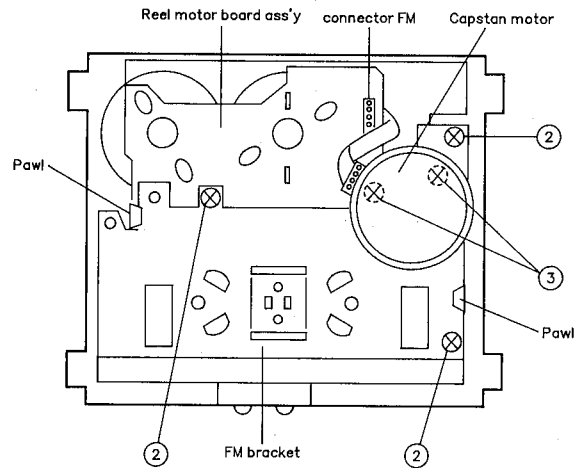

Fig. 2 - 12
4. For reengaging the capstan belt, refer to Fig. 2 - 13.
◆ **Flywheel ass'y (Fig. 2 - 14)**